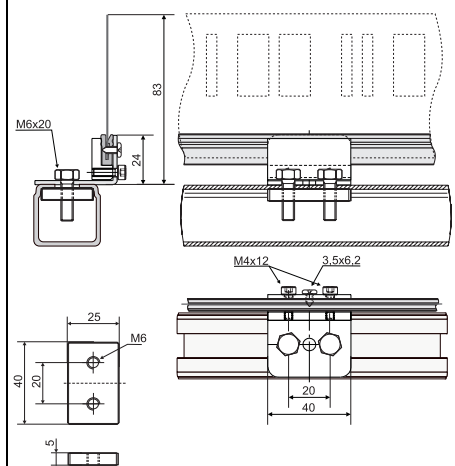

Fig. 6
- WCS-MB2-B: Mounting bracket for bend with mounting system for installation in C profile rail 30 x 32 mm (Fig. 6).